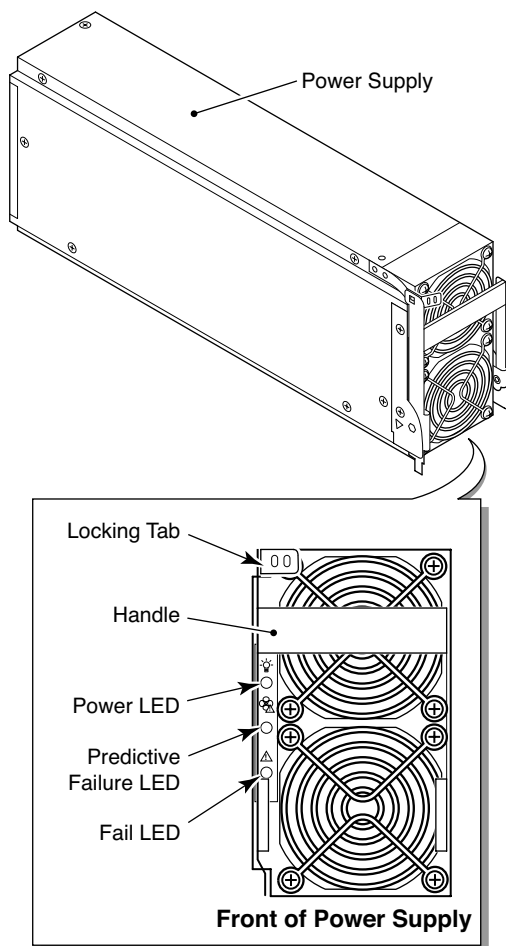

Figure 17 Power supply LEDs
1. Check the LED indicators on the power supply (see Figure 17).